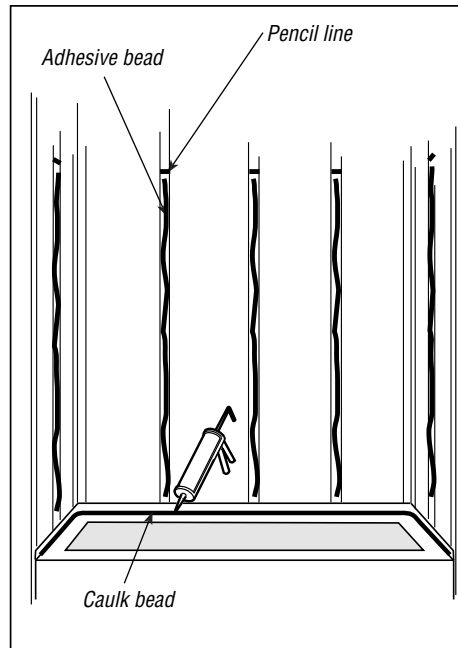

Figure 3
- 4** When satisfied with fit, mark the top of the panels on each stud. Remove the panels. Apply a bead of adhesive down each stud that will come in contact with the back panel being sure to stay below the line you marked. You do not need to apply adhesive to the corner studs. Lay a bead of latex/acrylic caulk along tub ledge (Figure 3). Reposition back panel and press firmly in alcove against studs.